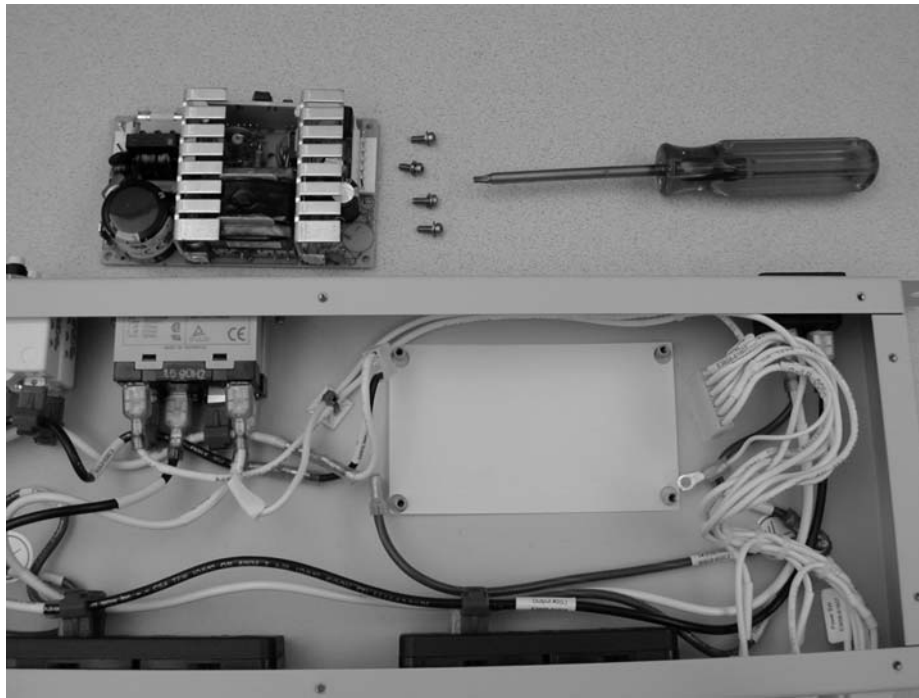

Figure 3. Power Supply Removed from the PDU Chassis.
- Using a T10 Torx driver, remove the four screws connecting the power supply to the PDU chassis. Remove the power supply from the chassis (Figure 3).